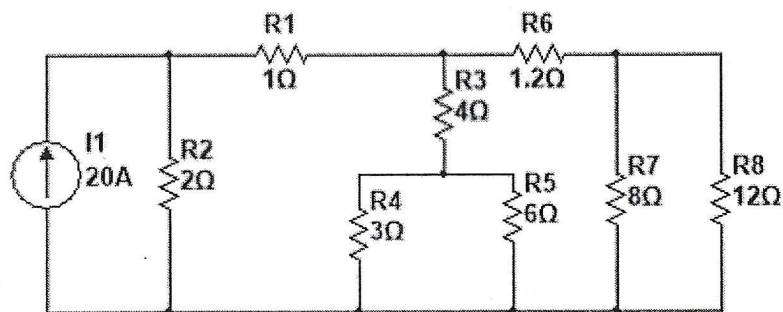

Figure 1
- d. Determine the voltage across the R1 resistor and current through R8 resistors shown in figure 1. (12 Marks)